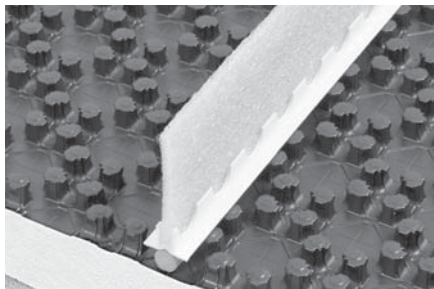

Fig. 1: Rounded profile with settlement joint strip
- Settlement joints made simple – using the rounded profile and the settlement joint strip (Fig. 1). Simply press in the rounded profile at the location where the settlement joint is to be created, pull off the adhesive strip from the settlement joint strip and stick it onto the rounded profile. This is a quick and clean way to create a separation between two areas of screed.